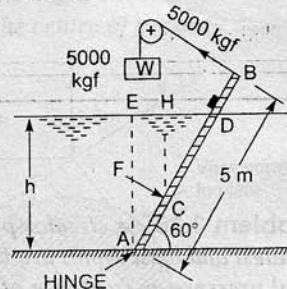

Fig. 3.22
**Problem 3.17** A rectangular gate  $5 \text{ m} \times 2 \text{ m}$  is hinged at its base and inclined at  $60^\circ$  to the horizontal as shown in Fig. 3.22. To keep the gate in a stable position, a counter weight of 5000 kgf is attached at the upper end of the gate as shown in figure. Find the depth of water at which the gate begins to fall. Neglect the weight of the gate and friction at the hinge and pulley.